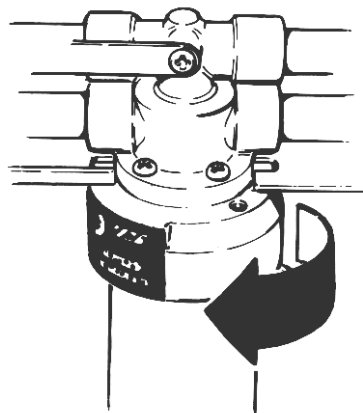

Figure 2
3. Rotate the cartridge to the left until it stops. (Some trapped water may drop as the cartridge is loosened.) (Figure 2)